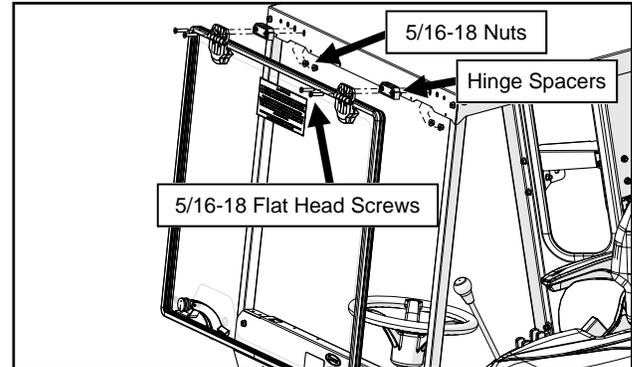

Fig. 13.1 (Attach Windshield)
13.1 With assistance, set the windshield up to the A-pillars and secure it to the roof using the hinge spacers and hardware. See Fig. 13.1. Leave hardware loose.